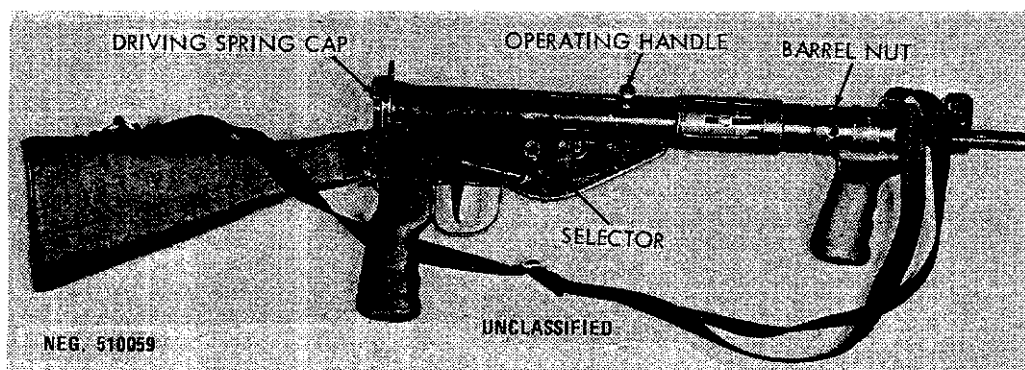

Figure 60. British Mark 5 Sten submachinegun.
a. The 9-mm Sten submachinegun (fig 60), developed in England early in World War II, was manufactured in enormous
(fig 60) to the rear, and ease it forward until the bolt is caught by the sear. (Note: On some Stens with modified operating handles, the handle must be pulled outward before it can be pulled rearward.) CAUTION: The Sten is now ready to fire.
e. To fire the gun, select the desired fire mode by pressing the selector (fig 60) in and to the left (for automatic fire) or to the right (for semiautomatic fire). If the gun is on safe, pull the operating handle to the rear, turn it down, and ease it forward until the sear catches the bolt. Using a normal sight picture, aim and press the trigger. The bolt will stay closed when the last round is fired.
c. If the gun is a Mark 2, 2S, or 5 model, unscrew the barrel nut (fig 60) (or the silencer on 2S) and pull the barrel out to the front. The magazine housing should be vertical before this can be done.